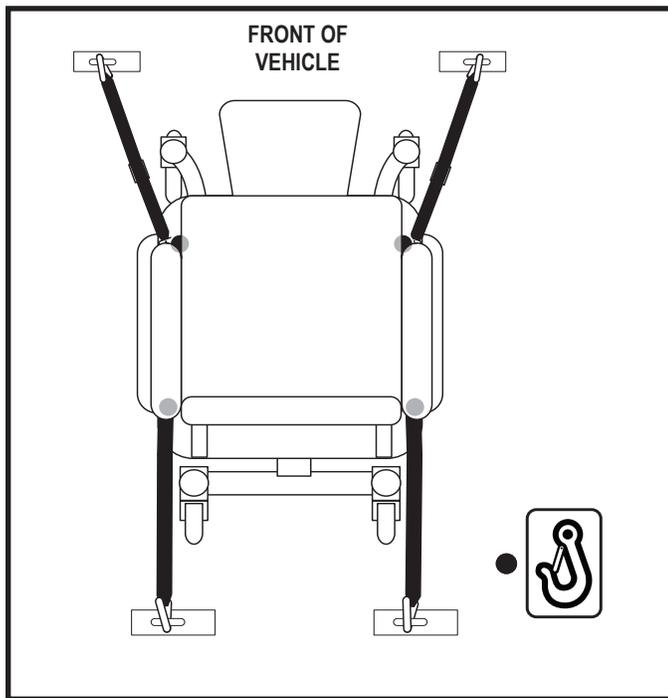

Figure 1. Securing the Power Chair
- Attach the four tie-down straps only to designated, labeled transit securement points indicated by anchor symbols on the power chair. See figures 1 through 12. Tighten the straps to sufficiently remove all slack.
- Position the anchor points for the rear tie-down straps directly behind the rear securement points on the power chair. The front tie-down straps should anchor to floor points that are spaced wider than the power chair to provide increased lateral stability. See figure 1.